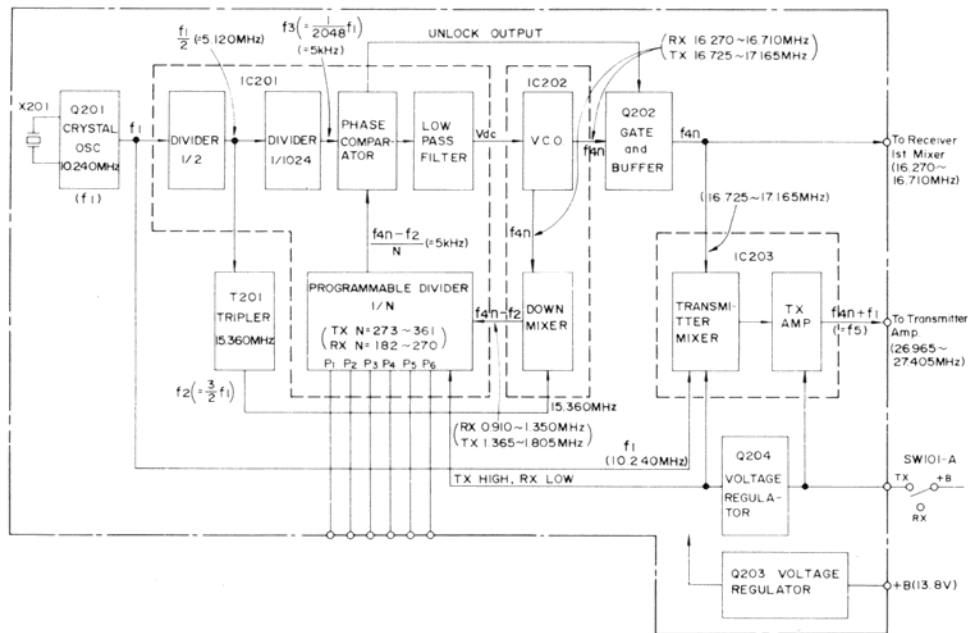

Figure 2 P.L.L. CIRCUIT FREQUENCY SYNTHESIZER
DESCRIPTION OF PHASE-LOCKED-LOOP (P.L.L.) CIRCUIT (Refer to Figure 2)
The frequencies for both transmitter and receiver are synthesized by one crystal controlled oscillator and the Phase-Locked-Loop (or P.L.L.) consisting of eight basic building blocks: the divider (1/2) IC201, the divider (1/1024) IC201, the phase detector (phase comparator) IC201, the low-pass filter IC201, the voltage controlled oscillator (or V.C.O.) IC202, the down mixer IC202, the programmable divider IC201 and the tripler T201 as shown in Figure 2.
3) Frequency Determining (Refer to Figure 2 and Table 1)